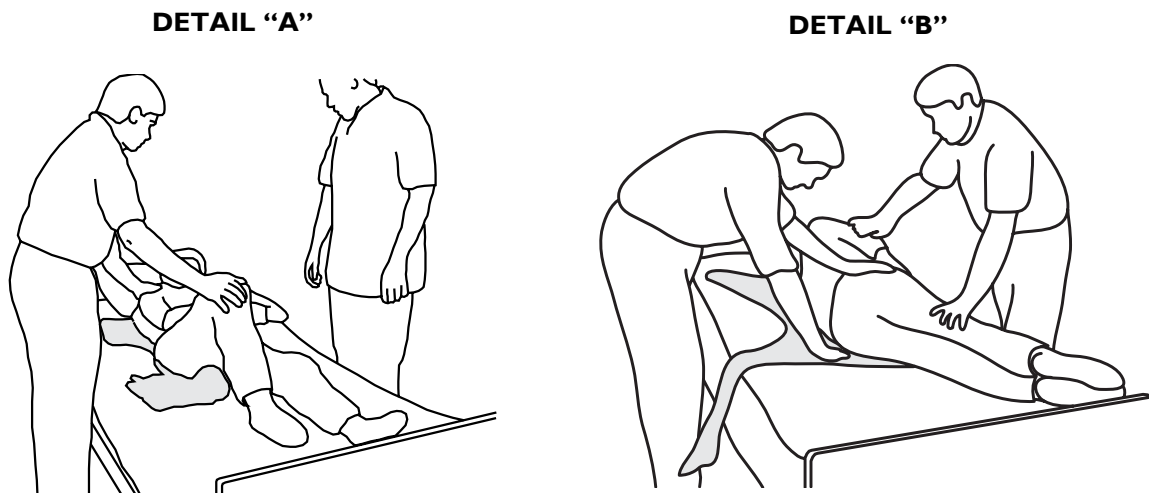
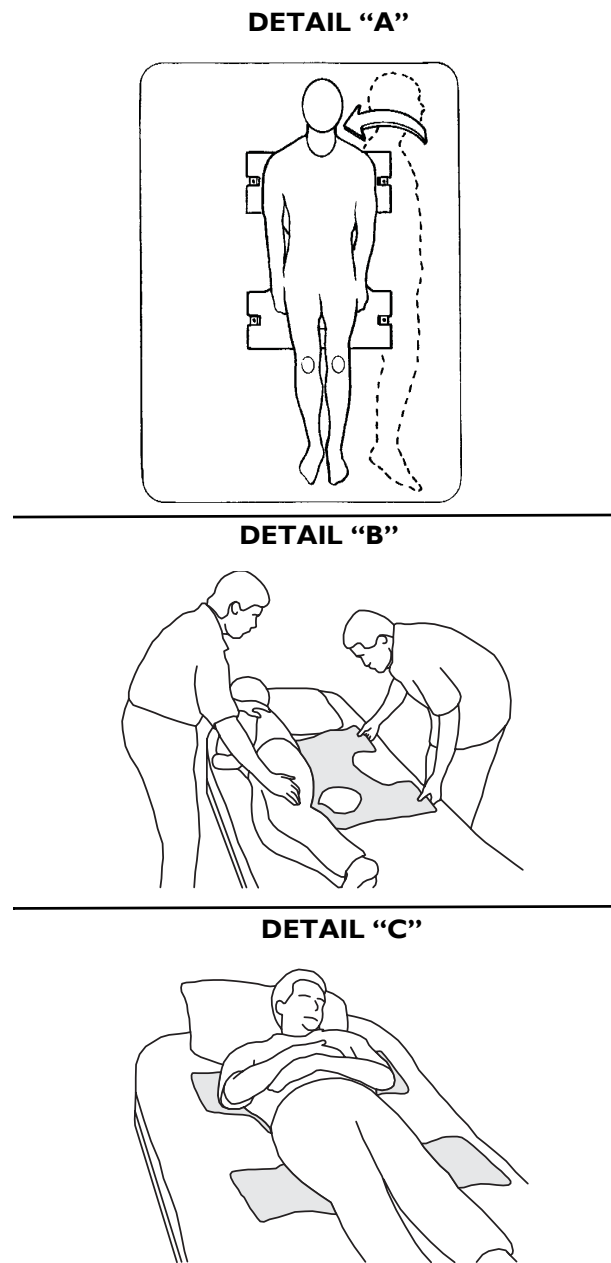

FIGURE 3.2 Rolling the Patient onto His/Her Side
FIGURE 3.3 Rolling the Patient onto His/ Her Opposite Side and Back
NOTE: For this procedure, refer to FIGURE 3.2 and FIGURE 3.3 on page 11.
Refer to Detail "A" of FIGURE 3.3.
Refer to Detail "B" of FIGURE 3.3.
8. Roll the patient onto his back and he should be approximately centered on the sling section. Refer to Detail "C" of FIGURE 3.3